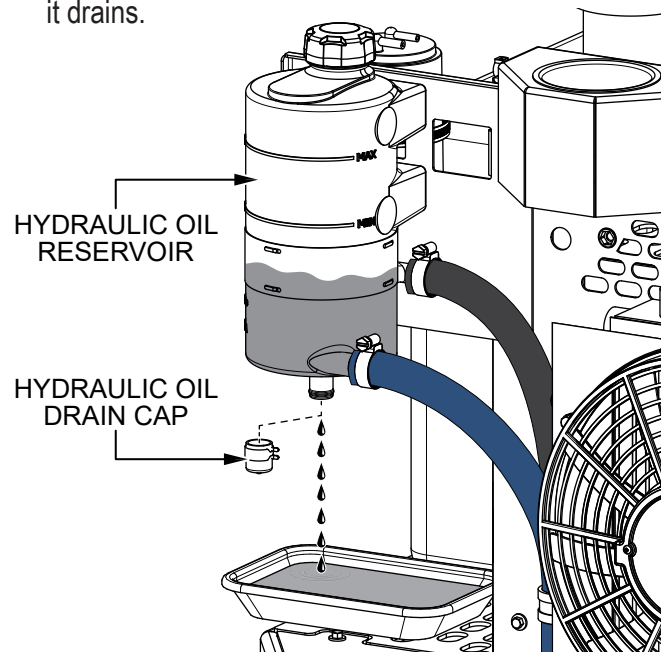

Figure 38. Draining The Hydraulic Oil
1. Place an appropriate container beneath the **hydraulic oil reservoir** (Figure 38) to catch the hydraulic oil as it drains.
2. Remove the **hydraulic oil drain cap** (Figure 38) and allow the hydraulic oil to drain completely from the reservoir. Replace the drain cap when finished.